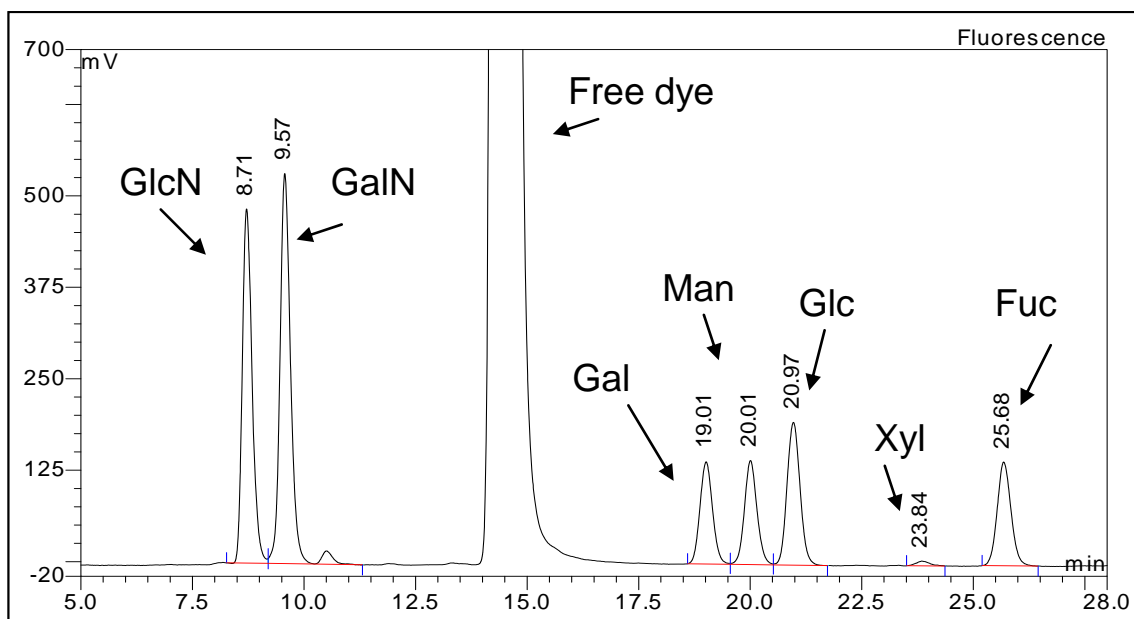

Figure 1: 2-AA fluorescence chromatogram of monosaccharides glucosamine (GlcN), galactosamine (GalN),
2. Free dye is not removed from the samples after 2-AA labeling to ensure no monosaccharides are lost in a dye clean-up stage. Free dye elutes as a large off-scale peak at about 15 minutes (Figure 1), **and also several large peaks after 28 minutes.**
5. Galactosamine also produces an epimer peak (Figure 1 – small peak immediately after GalN), typically smaller than 2 %. However this epimer peak often elutes with the free dye peak.